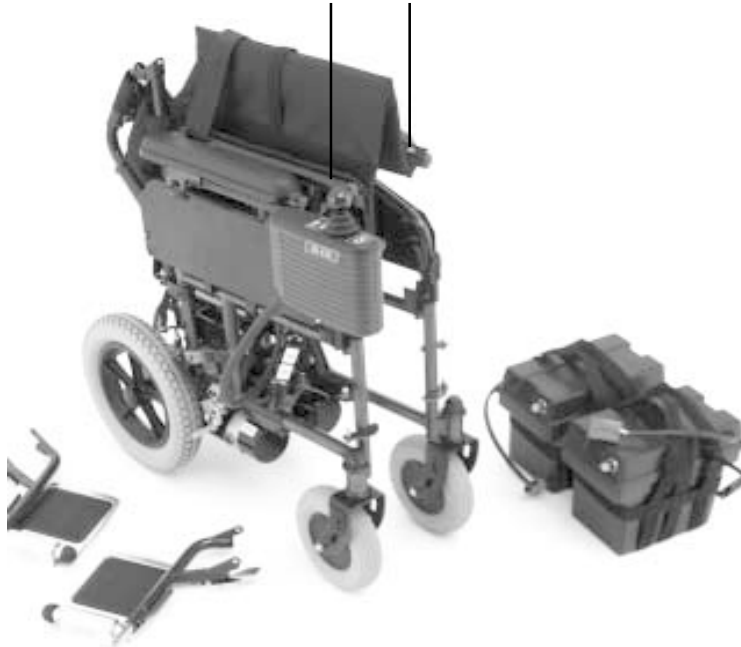

Figure 27. Pride LX - Disassembled and Folded
1. Push down on the seat bars until they lock into place. See figure 27.